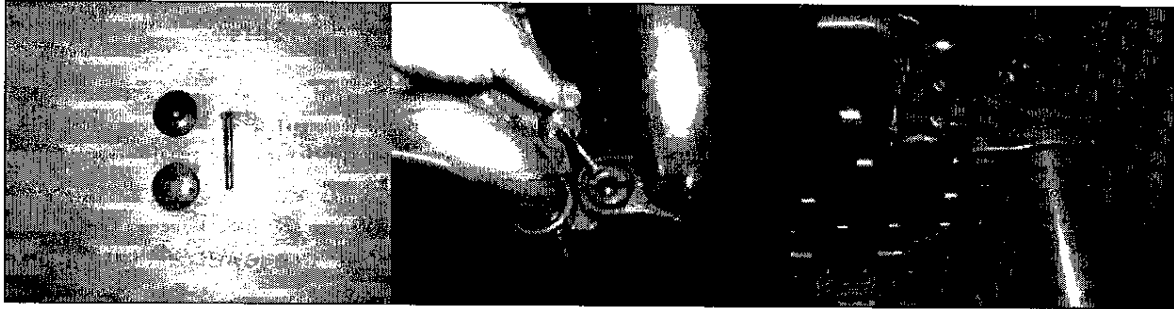

Figure 5
17. Once the hinge covers are fitted properly and alignment is achieved, install the long hinge center bolt with the upper and lower hinge caps. Note that one cap is threaded to receive the long hinge center bolt and the other cap is a through hole. Reference Figure 5.
NOTE: THE ORIGINAL HINGE CENTER BOLT WAS INSTALLED WITH THE HEAD OF THE BOLT FACING DOWNWARD. THIS BOLT CAN BE INSTALLED WITH THE HEAD OF THE BOLT FACING UPWARD OR DOWNWARD. FOR EASE OF INSTALLATION IN THE FIELD, IT IS RECOMMENDED THE HEAD OF THE BOLT BE FACING UPWARD FOR EACH OF THE FOUR GATE HINGES. REFERENCE FIGURE 5.